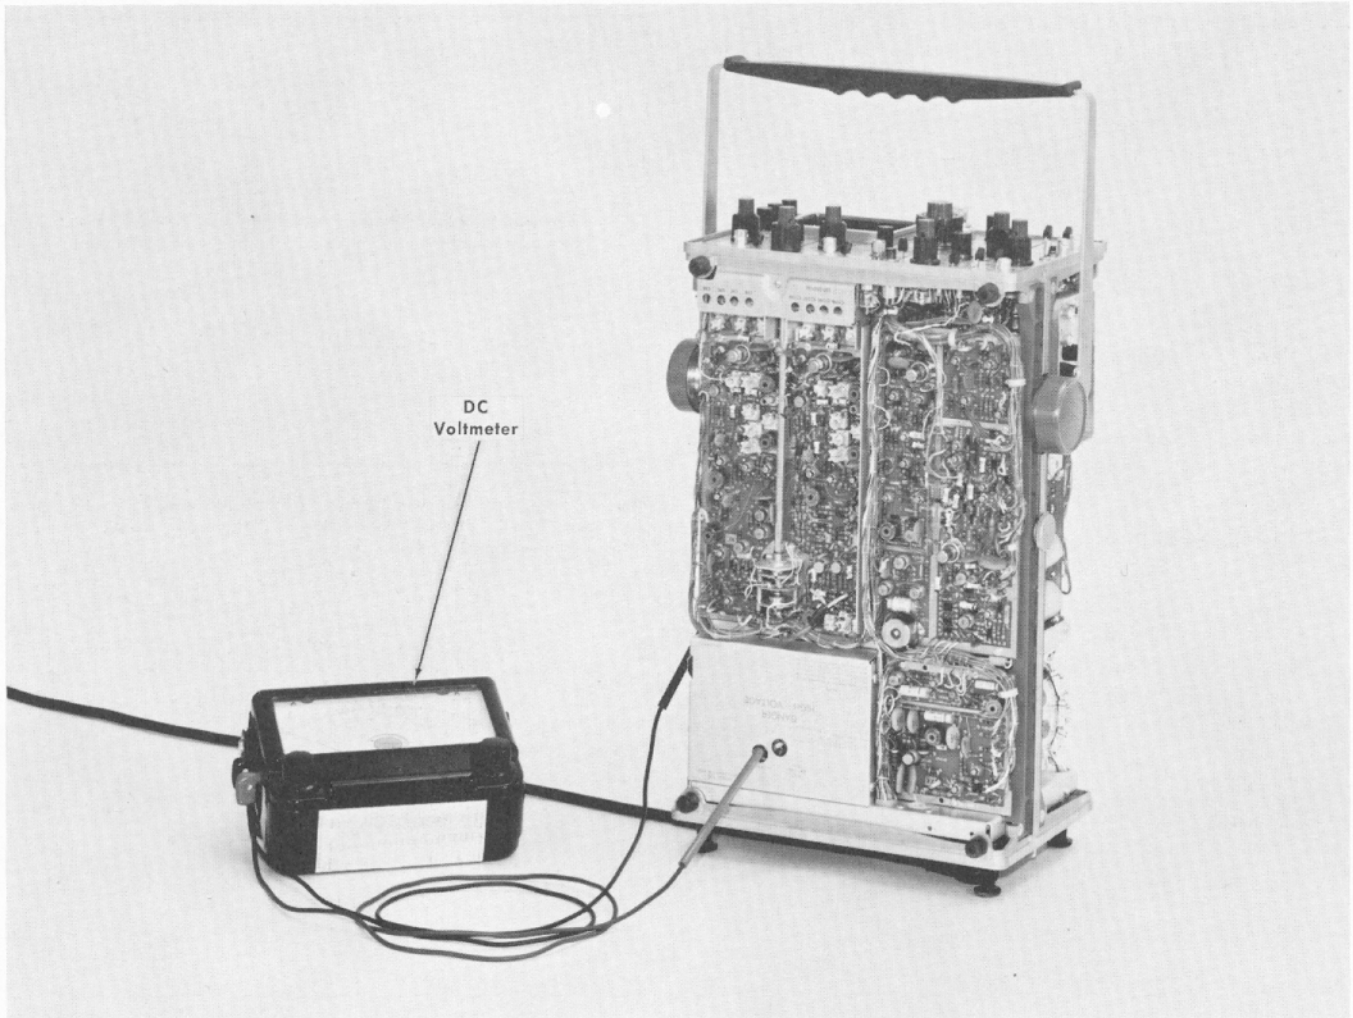

Fig. 6-9. Test equipment setup for steps 5 and 6.
- a. Test equipment setup is shown in Fig. 6-9.